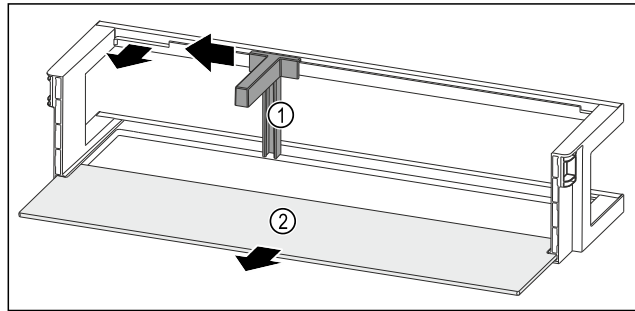

Fig. 128 Door rack with bottle holder and shelf
- ▶ Slide the bottle holder Fig. 128 (1) to the side as far as the recess.
- ▶ Remove the bottle holder Fig. 128 (1).
- ▶ Remove the shelf Fig. 128 (2).